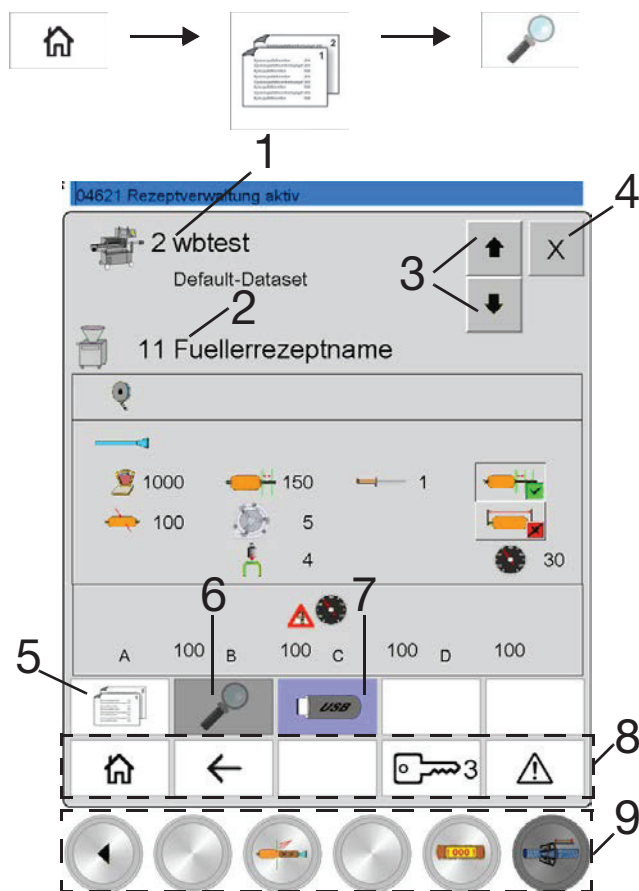

Fig. 4-51 Viewing recipe data
- 5 View recipe data in the selected recipe (takes you to Fig. 4-51)